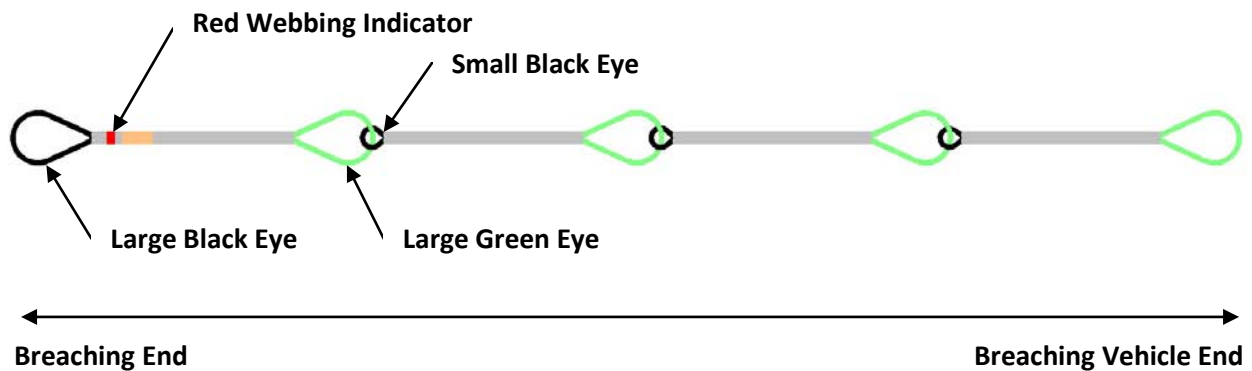

Figure 1
- 1.2 Proper working orientation of RAHAS Breaching Sling; see **Figure 1**.